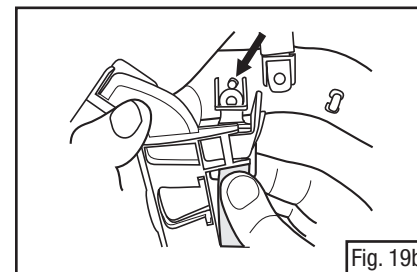

Fig. 19b
2. Install the chin strap by inserting the chin strap clips onto the attachment points on the suspension according to Fig. 19b. Firmly press the hole in the chin strap clip onto the catch on the suspension.